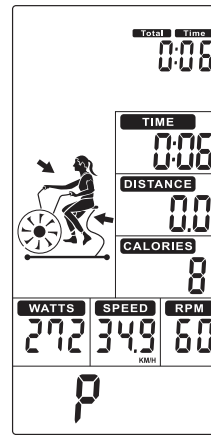
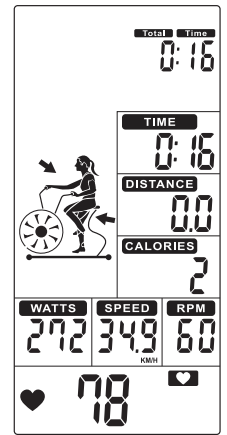

FIGURE 17
FIGURE 18
- In standby mode, press START (KEY 8) to start training quickly, an audible alert will sound for 1 second. TOTAL TIME / TIME / DISTANCE / CALORIES / WATTS / SPEED / RPM starts counting (Figure 17).
- Whenever there is a pulse signal, the ♥ symbol will flash and display the pulse value (Figure 18). Without a pulse signal, it will display "P" (Figure 17).